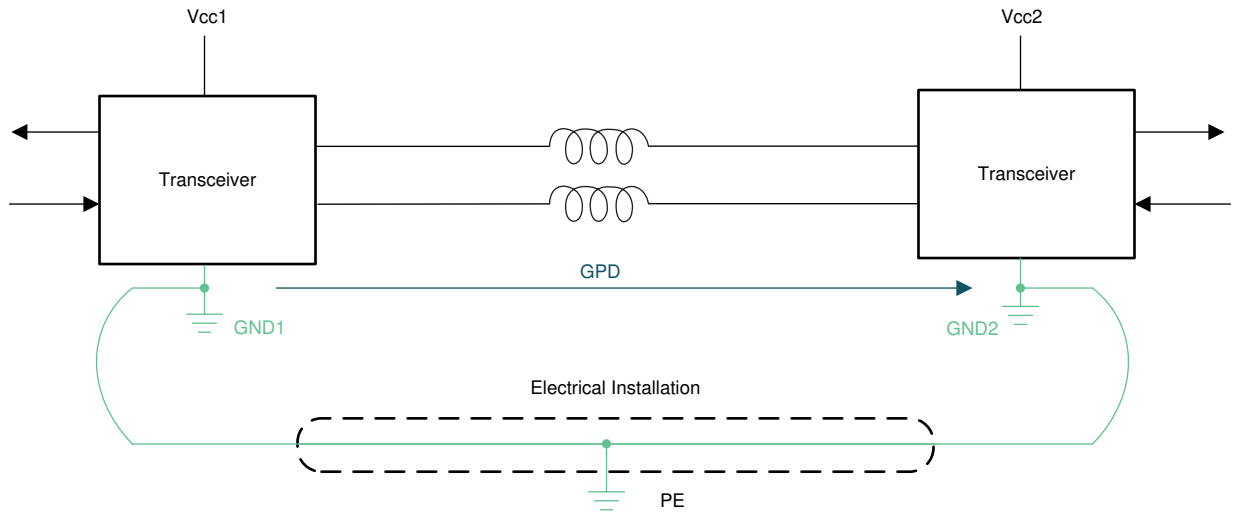

Figure 9-1. Grounding of two Transceivers
When designing a remote data link, the designer must assume that large ground potential differences may exist. These voltages show as common-mode noise to the transmitter output. Even if the total superimposed signal is within the input common-mode range of the receiver, the local earth ground may not be a reliable path for the return current. In other words, the nodes in a multi-node network have isolated local grounds that are connected through some high-impedance path (Figure 9-1). To help create stronger current return path, an easy way is to put all transceiver grounds on the same potential by connecting them by a third wire or the shield of the cable. If this method is not practical for the system, a capacitor and a large resistor like 10-M Ω can be applied to connect the transceiver ground with the protective earth (PE). The intention is to create a high-frequency current path via PE, while the effectiveness depends on the application environment.